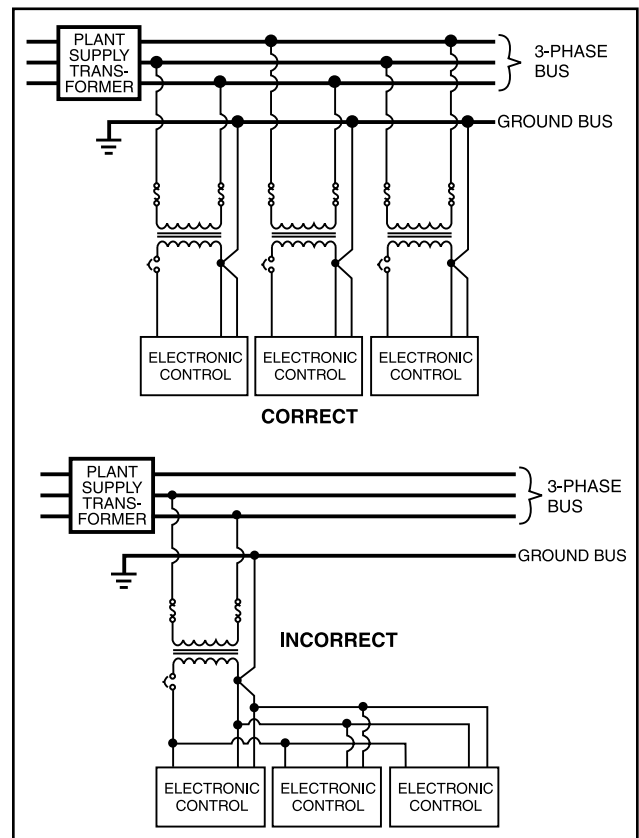

Figure 5
**Never daisy-chain or parallel-connect power or ground wires to electronic control panels.** Each electronic control panel must have its own control power supply and ground wires back to the power source (Plant Transformer). Multiple electronic control panels on the same power wires create current surges in the supply wires, which may cause controller malfunctions. Daisy-chaining ground wires, taking them to ground at each device, allows ground loop currents to flow between electronic control panels which also causes malfunctions. See Figure 5.